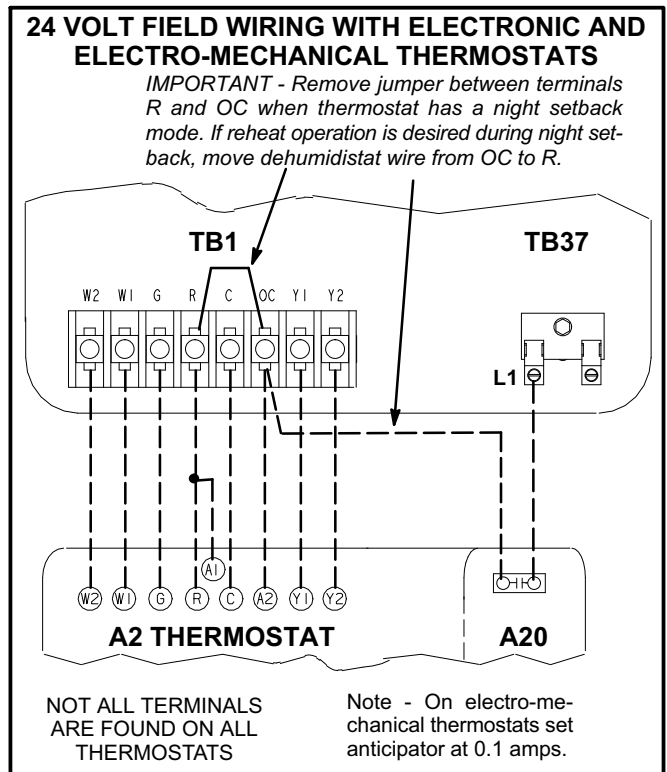

FIGURE 13
- 3- Connect thermostat wiring to TB1 terminal board on the lower side of the controls hat section. Wire as shown in figure 13 for electro-mechanical and electronic thermostats. If using other temperature control devices or energy management systems see instructions and wiring diagram provided by manufacturer.
- 2- Connect dehumidistat and/or thermostat wiring to TB1 and TB37 as shown in figure 13.